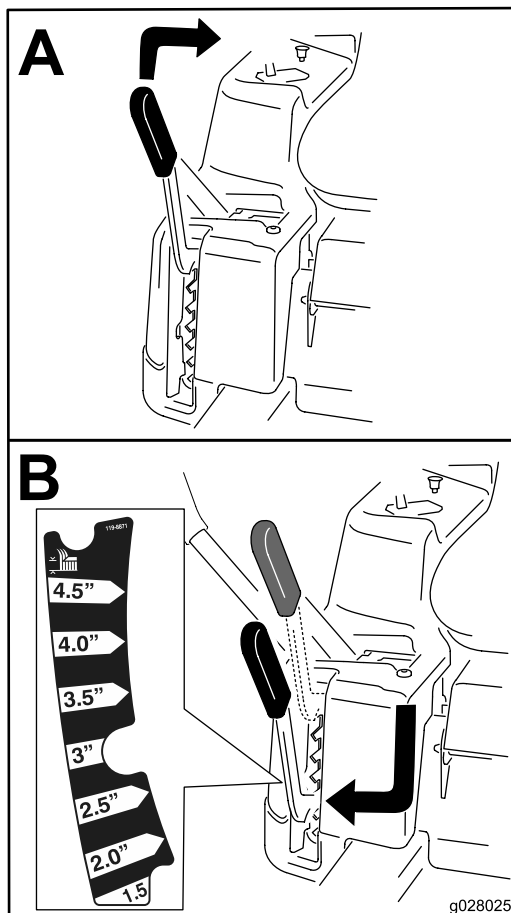

Figure 18
**Note:** The transport position is the highest height-of-cut position at 115 mm (4-1/2 inches) as shown in Figure 18.